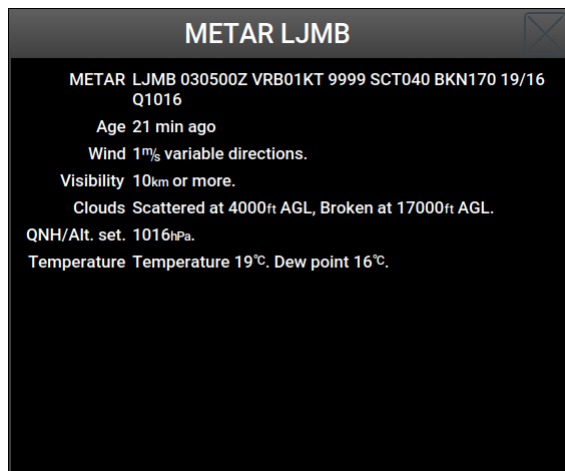

Figure 3.10: An example of interpreted METAR report.
**Weather** section is available when Nesis is connected to the Internet. METAR reports are shown. In addition, when the METAR report is selected, a new window is opened, where the METAR report is interpreted in a more friendly form. For an example, see Figure 3.10. Full METAR report is shown on the top and the interpreted part below. Note that we try to interpret as much as possible, but some parts may be too difficult to handle.